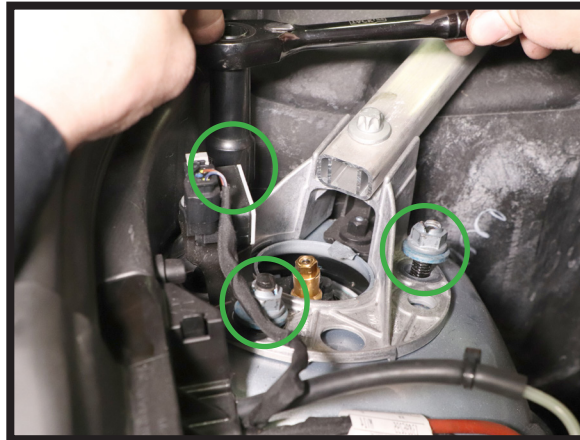

FIGURE 19
2. INSTALL THE THREE (3) TOP STRUT MOUNT NUTS. TIGHTEN TO MANUFACTURER'S SPECIFICATIONS. (FIGURE 19)